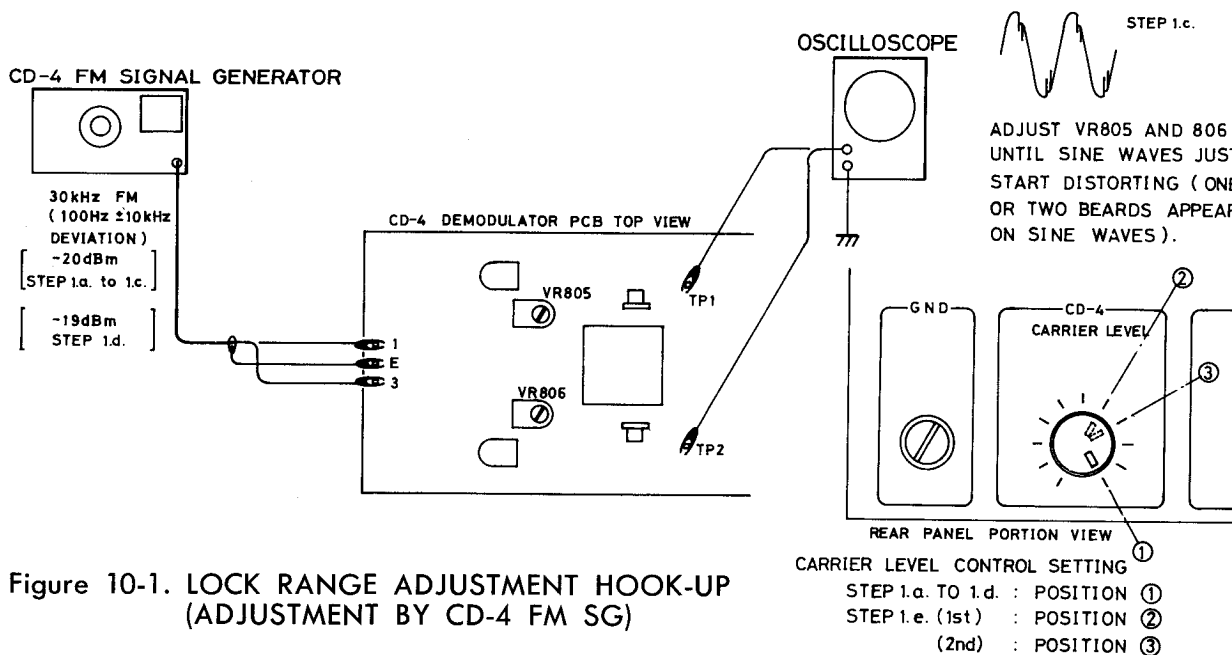

Figure 10-1. LOCK RANGE ADJUSTMENT HOOK-UP (ADJUSTMENT BY CD-4 FM SG)
two beards appear on sine waves by rotating it while observing sine waves. (See Figure 10-1)
- Rotate VR003 counterclockwise to the point where one or two beards appear on sine waves, then put it back clockwise by one point. See Figure 10-1.